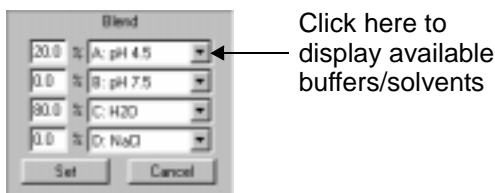

Figure 5-7 Blend Section of Control Panel
1. Click the down arrow to the right of a buffer/solvent channel in the Blend section of the Control Panel (Figure 5-7).